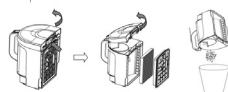

Fig. 3
3. Press the empty button, remove the lid of the dust container (Fig. 3) and empty the dust into the waste bin.
2. Remove the cartridge with the SMS fabric filter and the foam filter (Fig. 3).